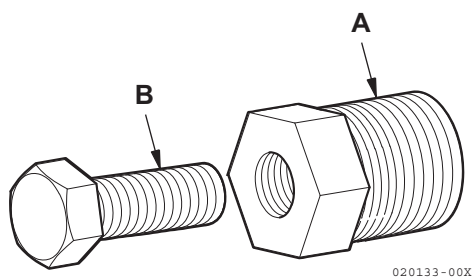

Figure 9
- 2. Install the puller (A, **Figure 9**) in the impeller.
- 3. Turn the jack screw (B, **Figure 9**) clockwise to remove the impeller from the pump body.